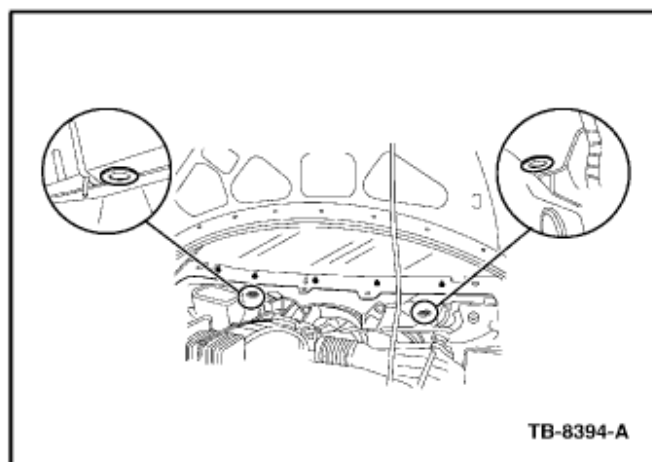

Figure 11
14. Remove and discard the two rubber plugs on the bottom of the cowl sheet metal. (Figure 11)